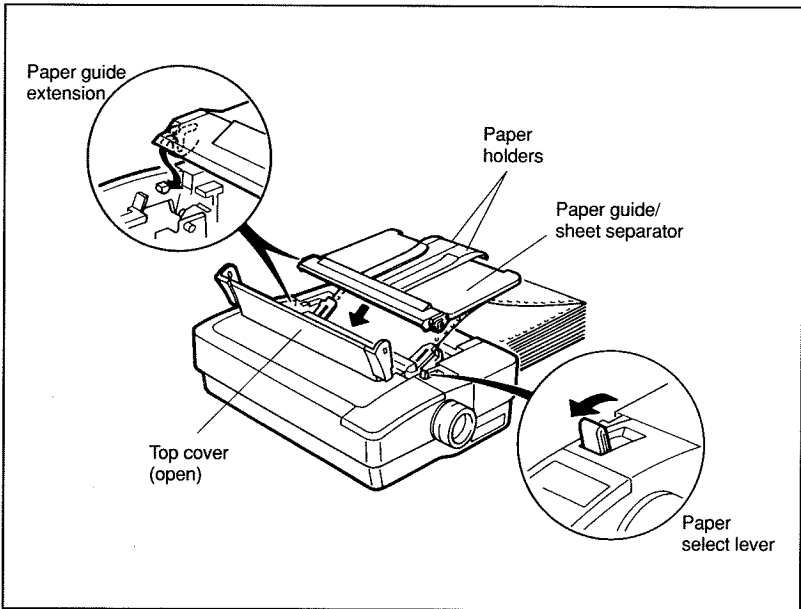

Figure 3-7. Installing the paper guide/sheet separator.
6. Install the paper guide/sheet separator in the sheet separator position see Figure 3-7. Do this by sliding the small pins that point into the printer onto the L-shaped channel openings on the outside of the paper guide extensions.